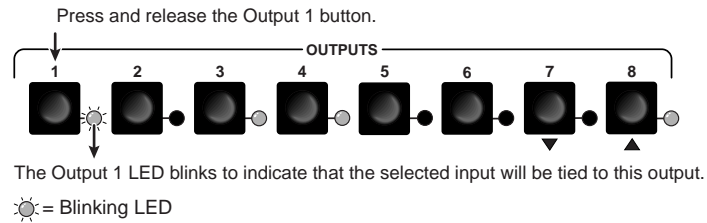

Figure 3-11 — Select the output
- Press and release the Output 1 button (figure 3-11).